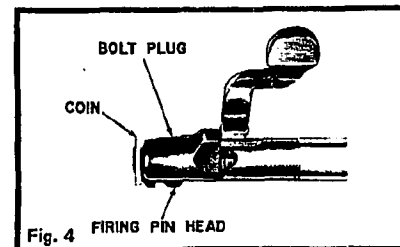

Fig. 4
**CLEANING AND CARE** — Caution: Before cleaning make sure there is no cartridge in the barrel chamber. Cleaning of barrel or bolt is more easily done with bolt removed. To remove bolt, press down on front of bolt release with a small, flat key or screwdriver. Bolt release is located in left rear of bolt channel in receiver. (Fig. 3) Withdraw bolt from receiver. When cleaning barrel use lightly oiled, soft cloth. Clean from breach to muzzle. Scrub barrel bore and cartridge chamber with a good solvent. Wipe dry and re-oil bore and chamber very lightly. Clean bolt or bolt parts with a good petroleum solvent. Brush bolt face to remove shooting residue. Re-oil lightly and lubricate cam surfaces on bolt to prevent wear. If necessary to clean firing pin assembly, pull firing pin head back until coin or similar piece can be inserted in slot near back edge of firing pin head (Fig. 4). Hold bolt handle and turn bolt plug until firing pin assembly can be removed from bolt. Clean, re-oil lightly and reassemble in reverse. Removal of stock is not recommended unless for replacement of fore-end weights. See exploded view.